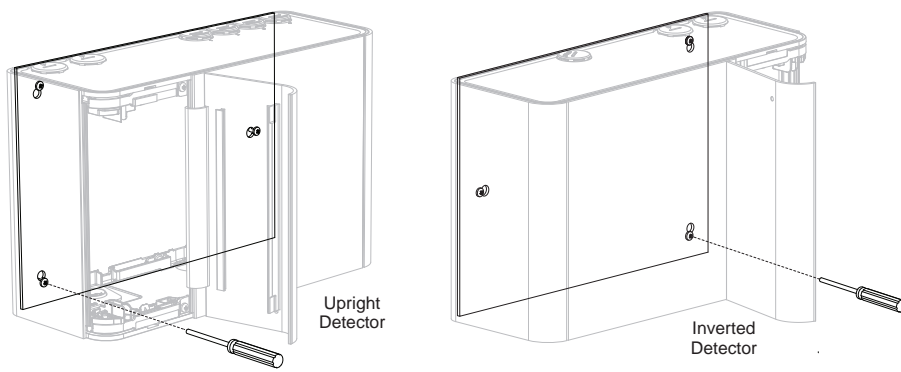

Figure 4-31: Locking screw
12. Insert an M4 screw at the small end of the detector's bottom-left, or bottom-right for an inverted detector, keyhole (Figure 4-31).